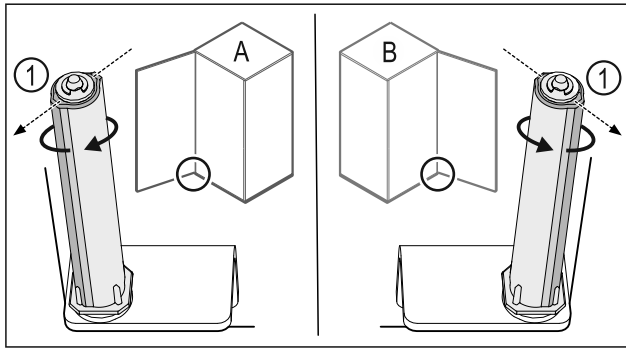

Fig. 37 Left stop (A) / right stop (B)
- ▶ Turn the locking system against the resistance until the bar on the locking system Fig. 37 (1) is pointing outwards.